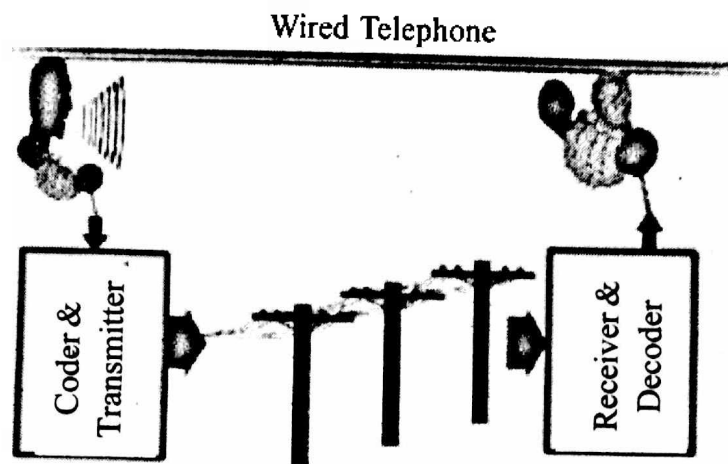

Fig. 6.3 Wired communication system
In a wire, these waves are induced and guided by an electrical current passing along with electrical conductor, but that is not the only way of propagating electromagnetic (EM) waves. By using a very strong electrical signal as a transmitting source and electromagnetic wave can be made to spread far and wide through the air. The radio waves are produced by transmitters, which consist of a radio wave source connected to some form of antenna. Figure 6.3 shows the wired communication system.